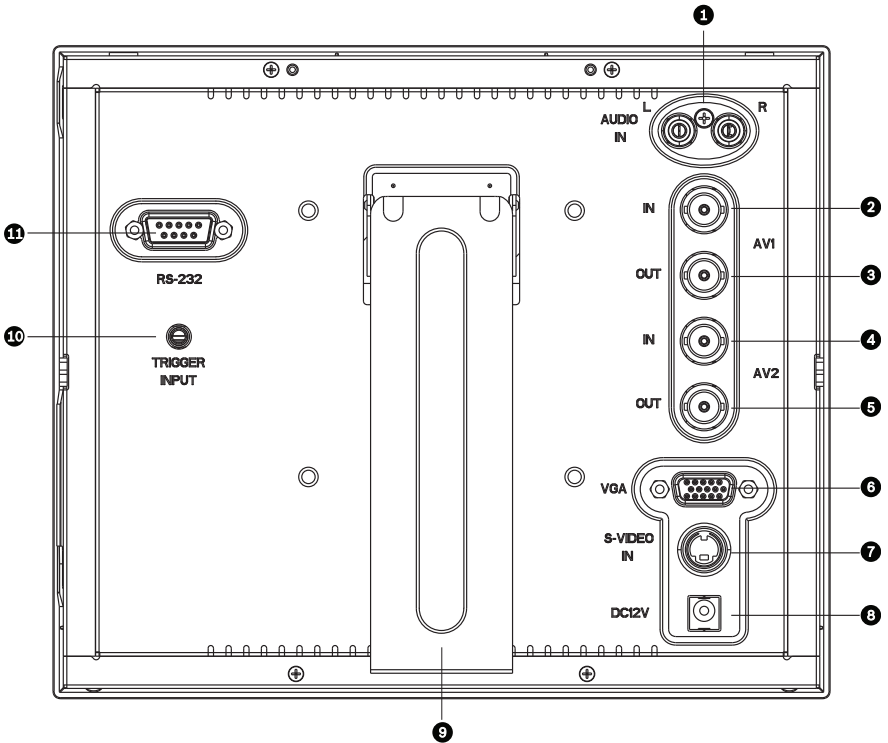
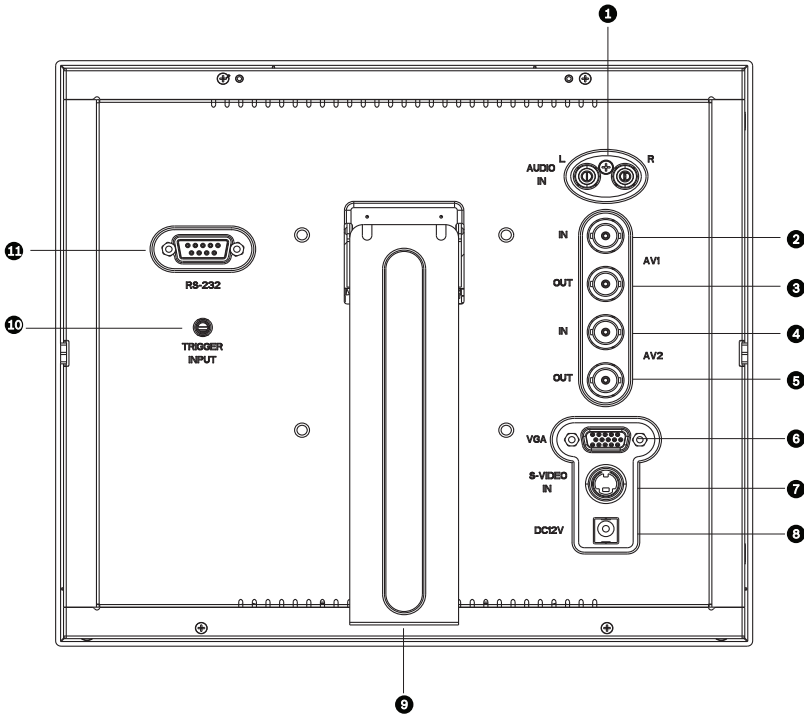

Figure 3.2 Rear Panel (UML080-90, UML082-90)
Figure 3.3 Rear Panel (UML-100-90, UML-102-90)
There are two (2) BNC connectors located on the rear side panel of the monitor for composite video inputs and two (2) BNC connectors for composite video outputs (see *Figure 3.2* and *Figure 3.3*).
There is one (1) mini-DIN type connector for the S-Video (Y/C) input (see *Figure 3.2* and *Figure 3.3*) on the rear side panel.